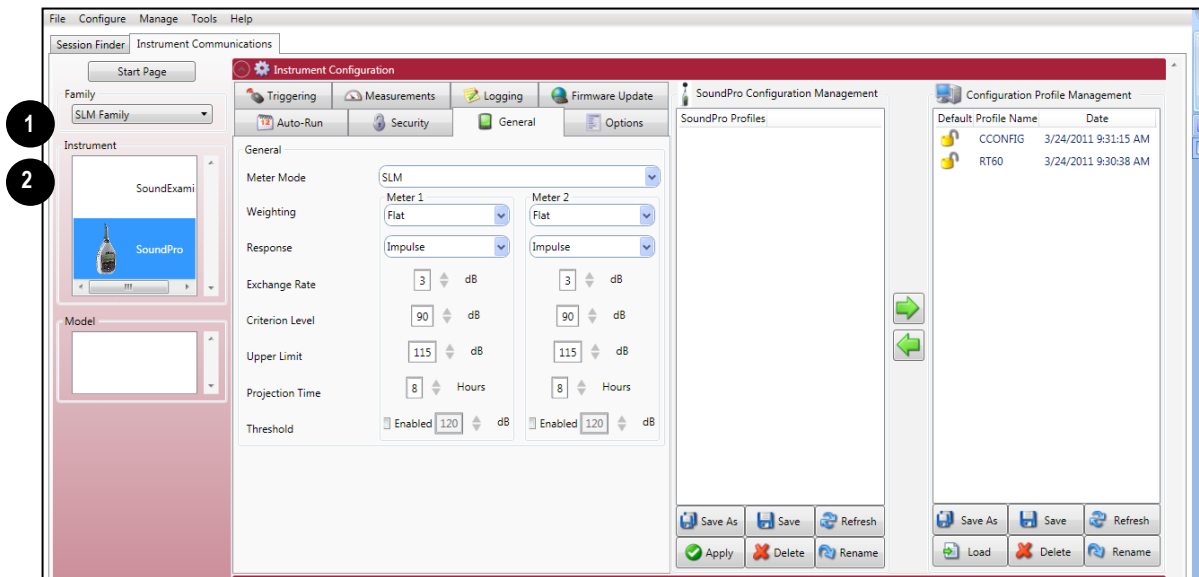

Figure 1-84: SoundPro Sound Level Meter communication setup
2. From the start page of DMS, select  or  buttons and the Instrument Communications page will appear (see Figure 1-84 below).